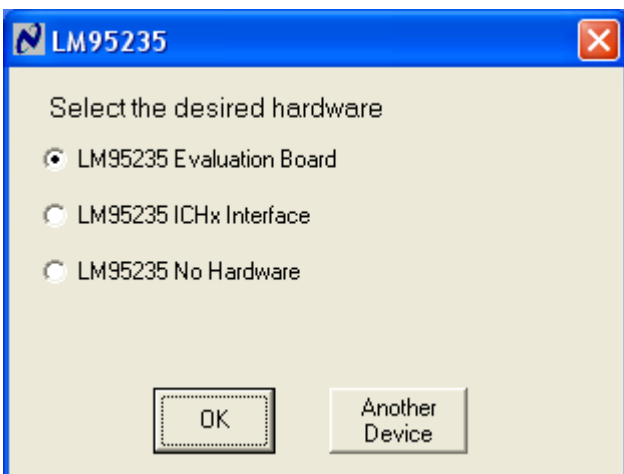

Figure 5
8. Select LM95235 and click on the Open button. The next screen (first screen after the first time you run the program) will look like this Figure 5